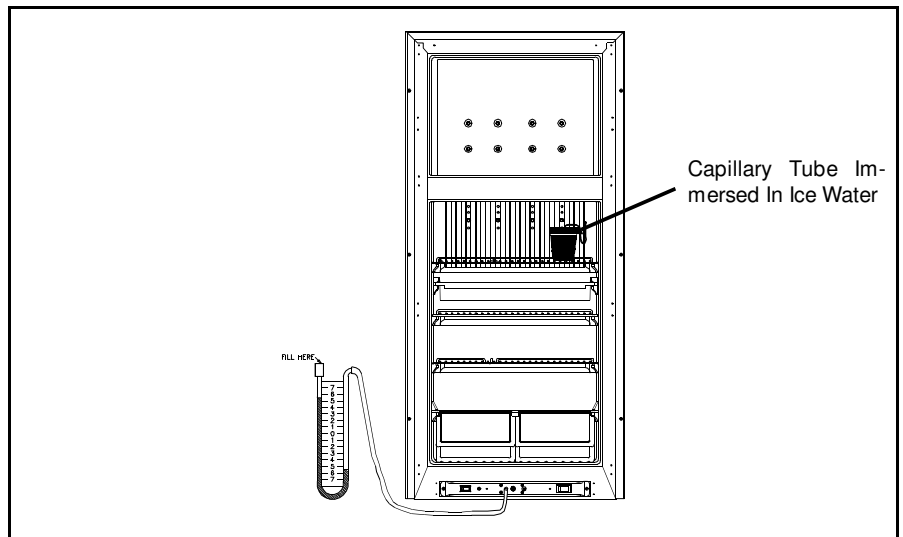

Figure 3.30 Check for Overfreezing
3. Remove the capillary tube from the fins. Place a cup of ice water on the top shelf of the refrigerator. Immerse the capillary tube in the ice water as shown in Figure 3.30.